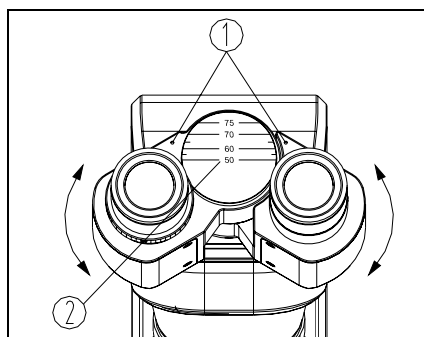

Fig.13
When using two eyes to observe, hold the bases of the prism and rotate them around the axis to adjust the interpupillary distance, until there is only one field of view. The dot “.”① on the eyepiece base points to the scale② of the interpupillary distance indicator. The scale value is the interpupillary distance (See Fig. 13). Adjustable range: 50~75mm.